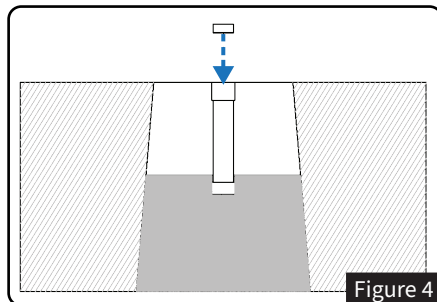

Figure 4
- Replace **Anchor Sleeve Caps (A)** and finish filling the hole with concrete. See *Figures 4 & 5*.